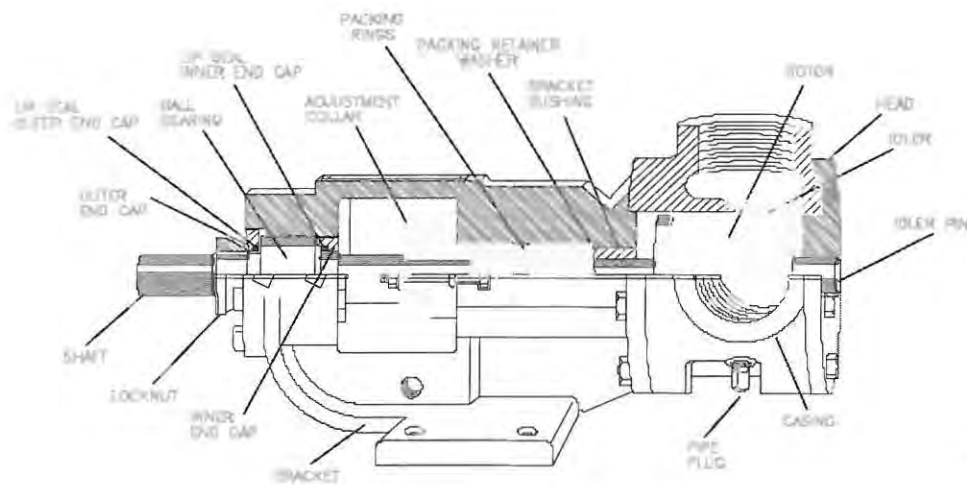

Figure 2
6. The pumps adjustment collar mechanism consists of two capscrews (11), one on each side. They may be tightened to decrease the dripping or loosened to increase the dripping. See figure 2.